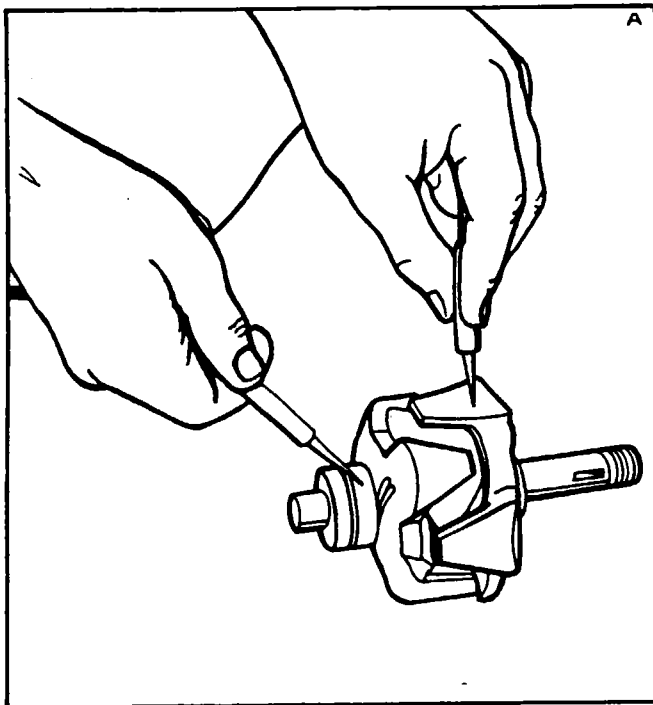
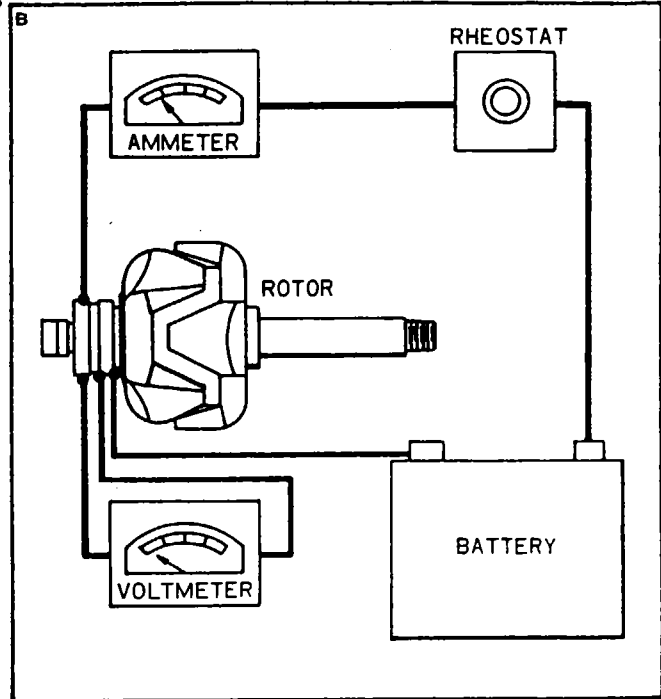

Figure 11-7. Testing Rotor for Ground
Figure 11-8. Testing Rotor for Shorts
a. Rotor: The rotor should be tested for a grounded, shorted, or open winding. The ground test can be made with a 110 volt test lamp, an ohmmeter, or any type of continuity tester. (Refer to Figure 11-7 .) There must not be any continuity from the slip rings to the rotor shaft or poles. To test for shorted turns in the rotor winding, connect an accurate voltmeter, ammeter and rheostat as shown in Figure 11-8 , or use an accurate ohmmeter. Rotor current draw and resistance are listed in Table XI-II Alternator Specifications. Excessive current draw or a low ohmmeter reading would indicate shorted windings. No current draw or an infinite ohmmeter reading would indicate an open winding.